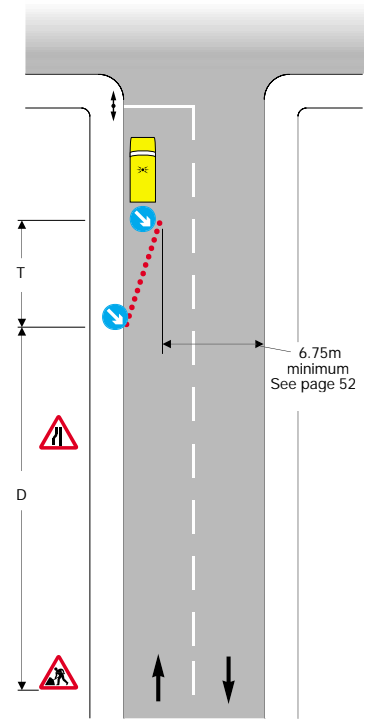

Figure 3
- Figure 3 : Work at a kerbside signal when a works vehicle and its operating roof-mounted amber beacon can be seen clearly.